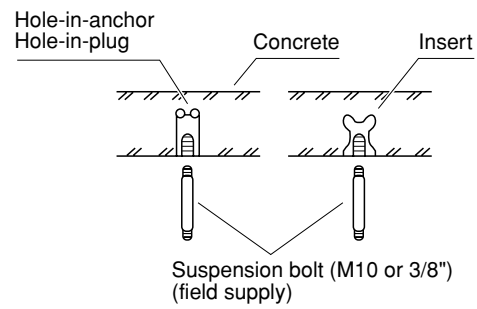

Fig. 3-69
- (2) Drill holes at the 4 points indicated on the full-scale diagram.
- (3) Depending on the ceiling type:
- a) Insert suspension bolts as shown in Fig. 3-69.
- (4) Screw in the suspension bolts, allowing them to protrude from the ceiling as shown in Figs. 3-69 and 3-70. The distance of each exposed bolt must be of equal length within 50 mm. (Fig. 3-71)